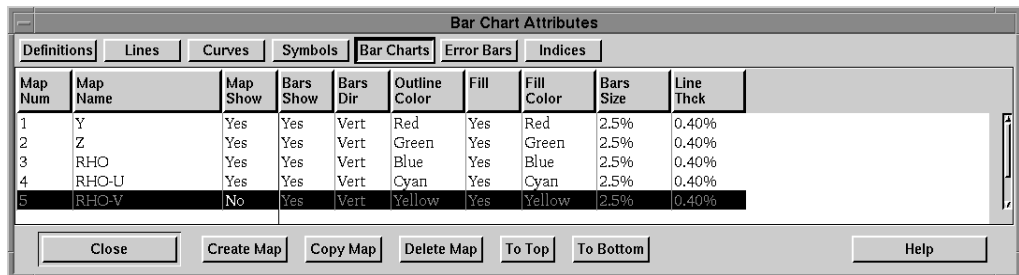

Figure 8-29. The Bar Chart Attributes dialog.
1. From the XY menu, choose Bar Chart Attributes. The Bar Chart Attributes dialog appears, as shown in Figure 8-29.